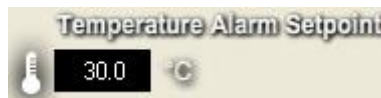

Figure 29. Temperature Alarm Set Point
- Click the temperature value displayed for the Temperature Alarm set point, as shown in **Figure 29**, to display the Set Alarm Temperature dialog. This alarm set point appears to the right of the display for the Pilot.